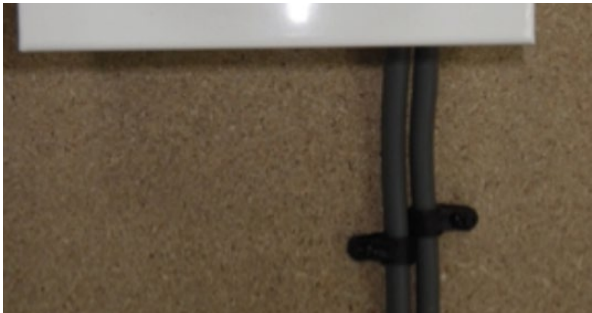

Fig 18. Meter tails secured by clips external to the consumer unit
- By clipping the meter tails external to the consumer unit (Fig 18).